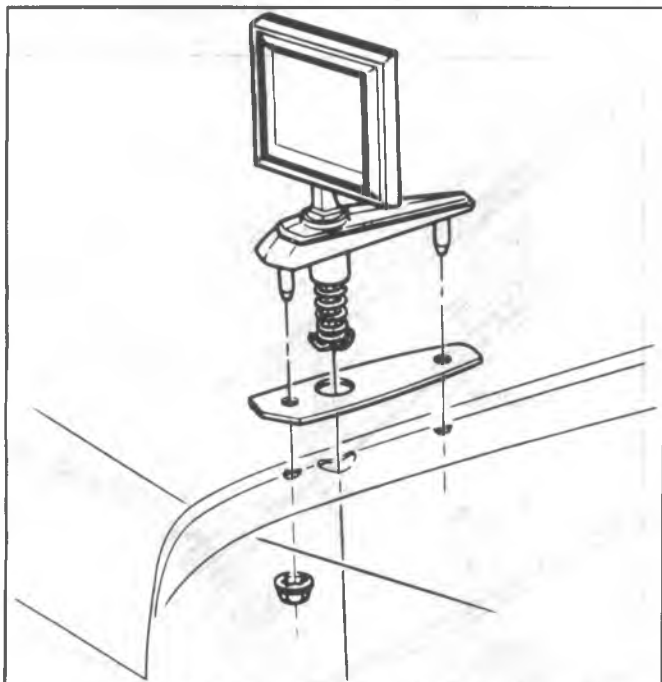

Fig. 2C-9--Hood Emblem - CK Models
**LOWER RADIATOR GRILLE - G MODEL (FIG. 2C-12)**